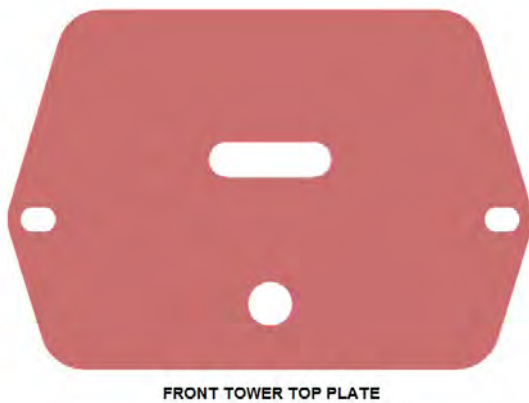

**Figure 6**
- Assemble slider blocks to front cross-member (See **Figure 6**)